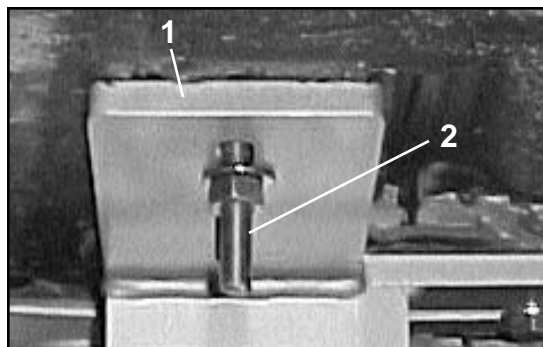

Figure 4
2. Position right front adapter plate against subrail on underside of rocker panel. Oval T-bolt must extend downward through slot in rail. (See Figure 4.) Secure adapter plate to subrail using 12mm nut and 1/2 ASTM washer.